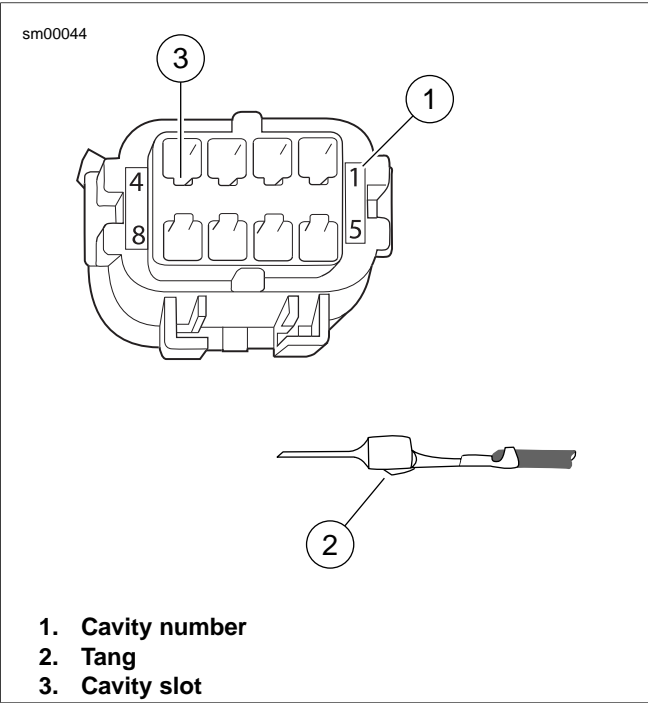

Figure A-50. Molex MX 150 Sealed Connector: Pin Cavities and Wire Terminal
1. See Figure A-50. From the wiring diagram, match the wire color to its numbered terminal cavity.